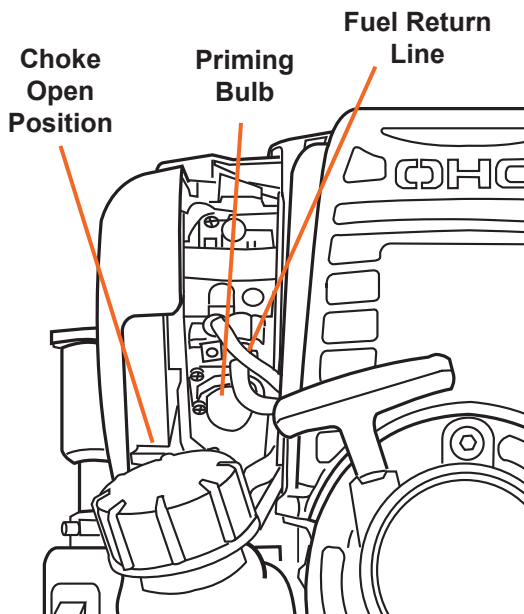
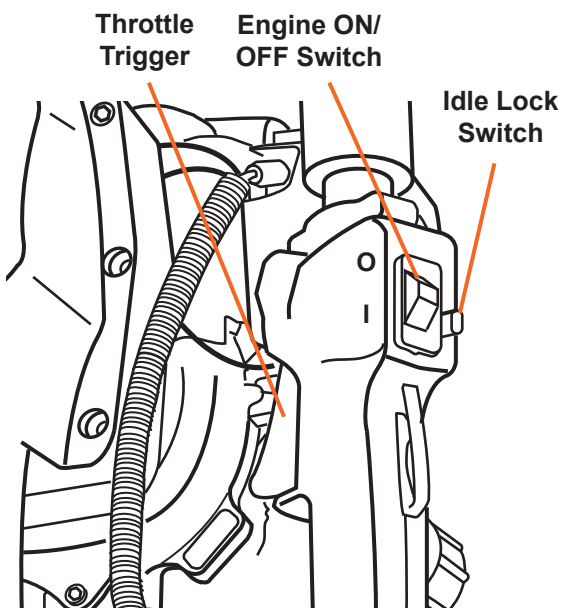

Figure 1
Figure 2
1. To start a COLD engine, move the choke lever upwards to the CLOSED position (see Figure 1). Lock the throttle by depressing the trigger and while the trigger is depressed, push in the button next to the thumb switch. Hold the button in and release the trigger. The throttle is now in the high idle position (see Figure 2).
3. Press the priming bulb repeatedly until fuel can be seen in the clear-plastic fuel return tube (see Figure 1).
1. Turn the engine switch to the OFF (see Figure 2).
2. Move the choke lever to the OPEN position (see Figure 1).